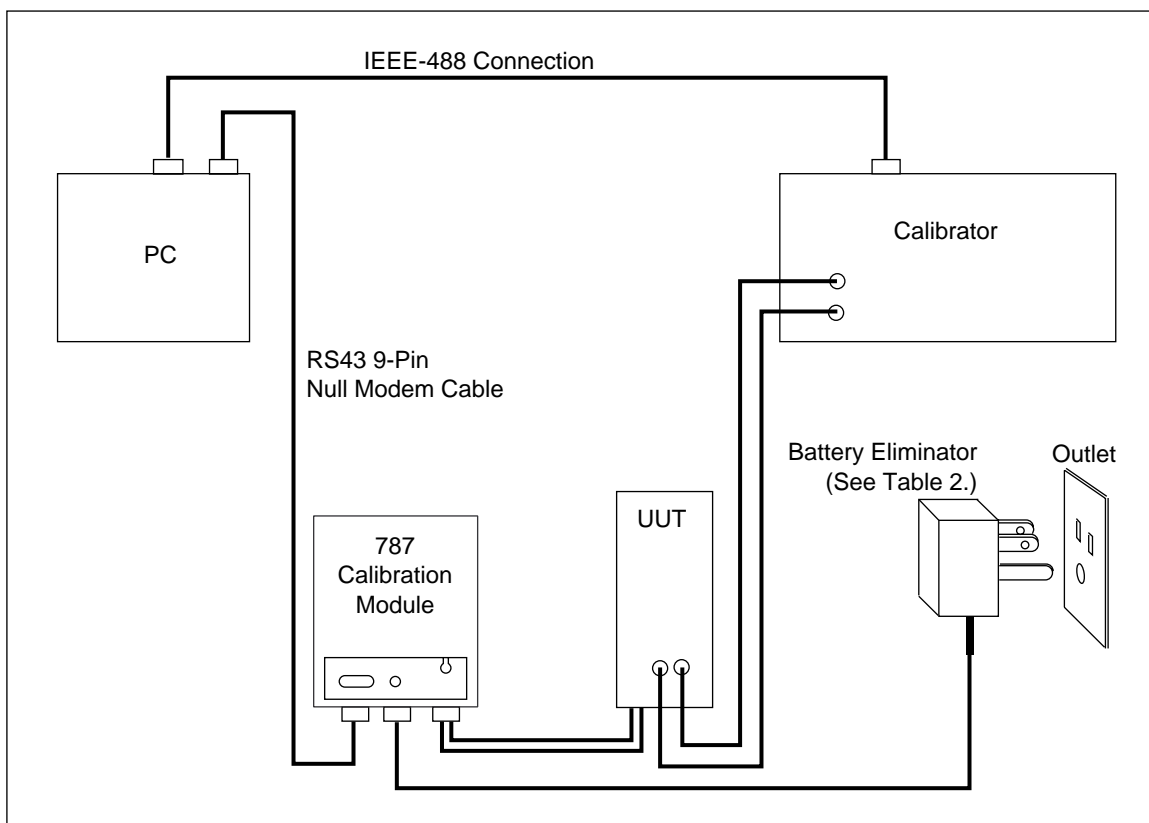

Figure 12. Calibration Connections for the 787 ProcessMeter
- **To maintain safe conditions during calibration, the 787 Calibration Module must be properly attached to the UUT’s battery lead connector, and the battery door on the ProcessMeter must be secured. See Figure 12.**
To install the 787 Calibration Module, do the following while referring to Figures 12 and 13 as necessary: